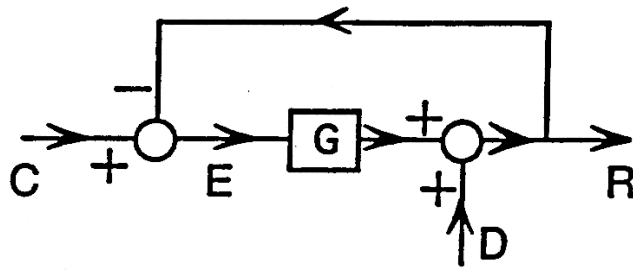

Figure 2
To make this comparable to Fig. 2, let the nominal value of A be 1.0.
What happens with feedback? What happens if G changes in Fig. 2? From eq (1) (let $D = 0$ for now)